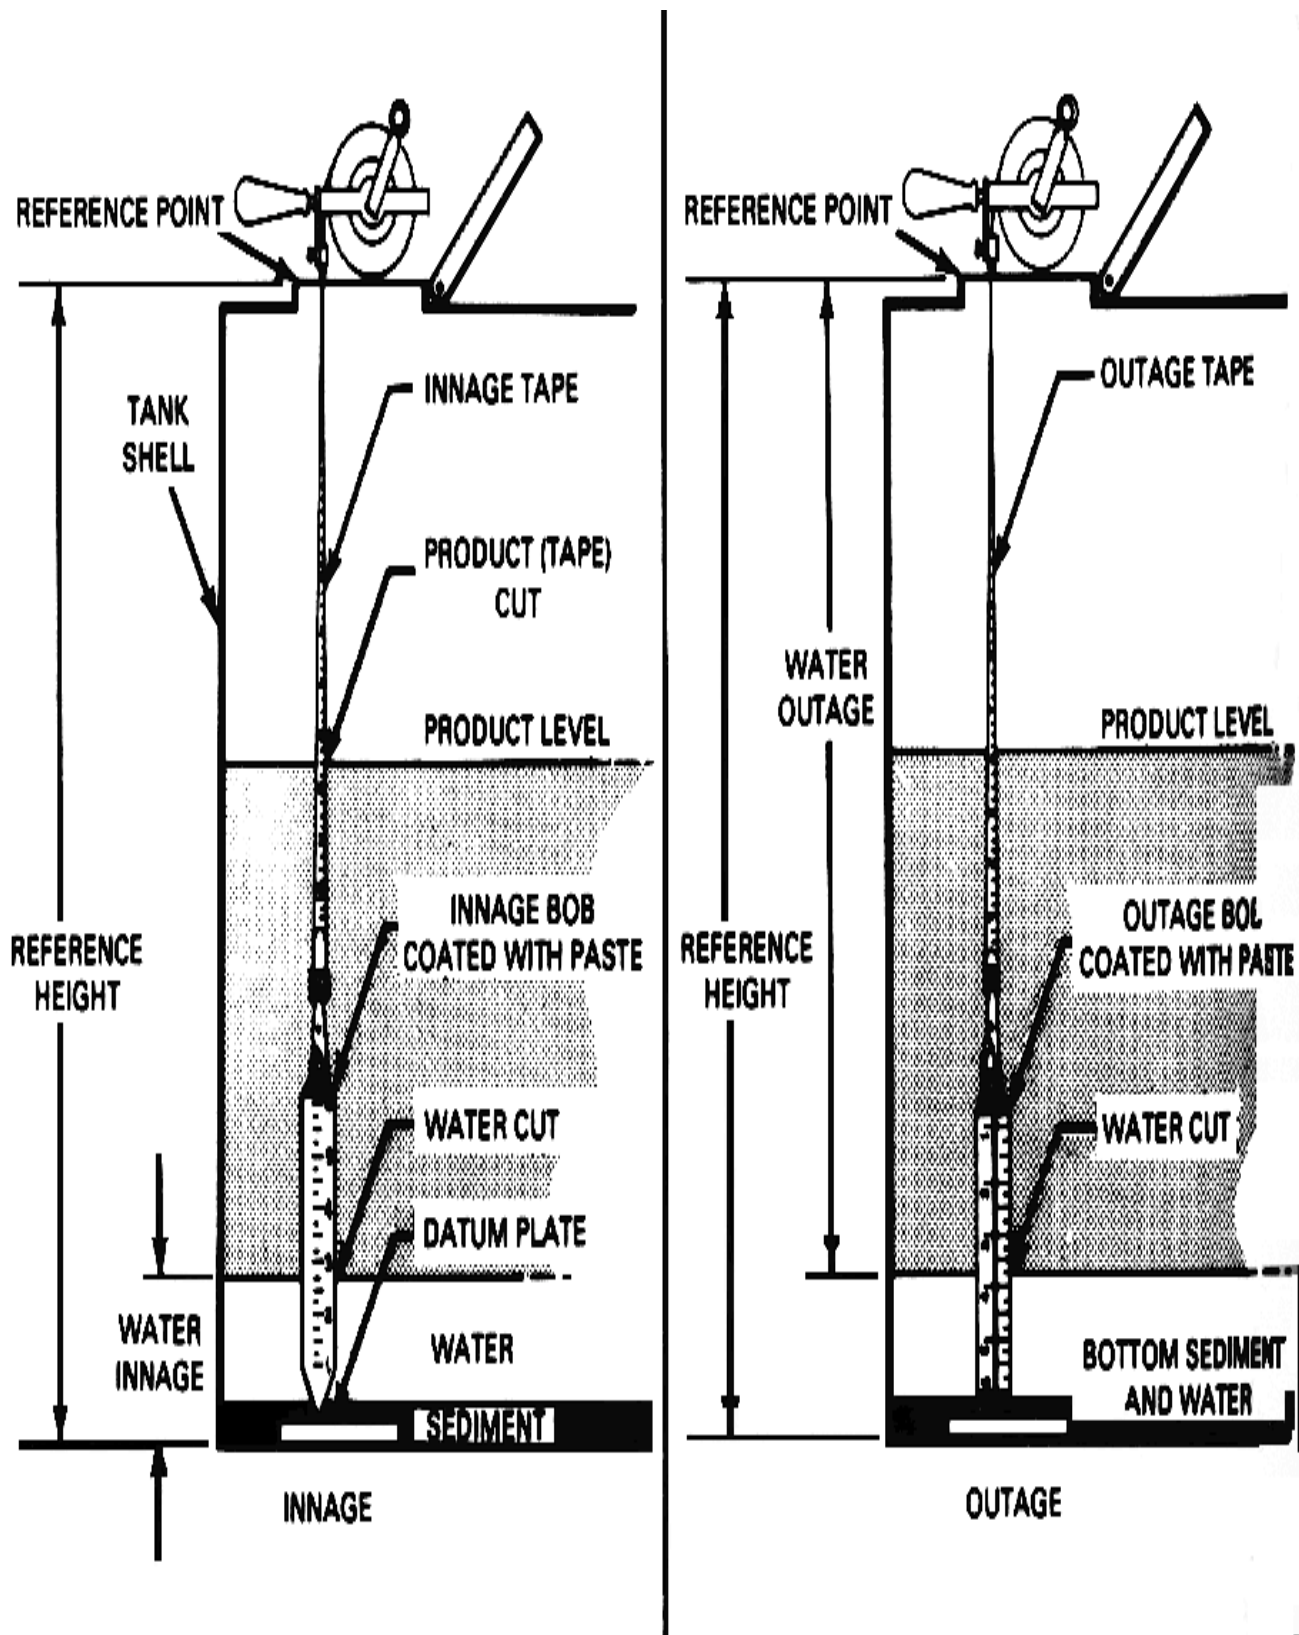
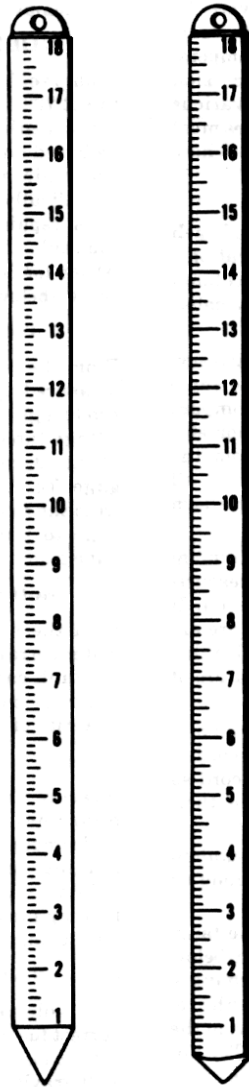

Figure 3-18. Taking water innage and outage readings
Figure 3-19. Typical water gage bars
- Use water-indicating paste to determine the water cut (Figure 3-18). Put a thin, even coat of paste on the part of the bob that will be at the point where water and product meet. Be careful not to put so much paste on the bob that it will cause a false reading. If the depth of the water is greater than the length of the innage bob, use a water gage bar (Figure 3-19) to measure the water in the tank.